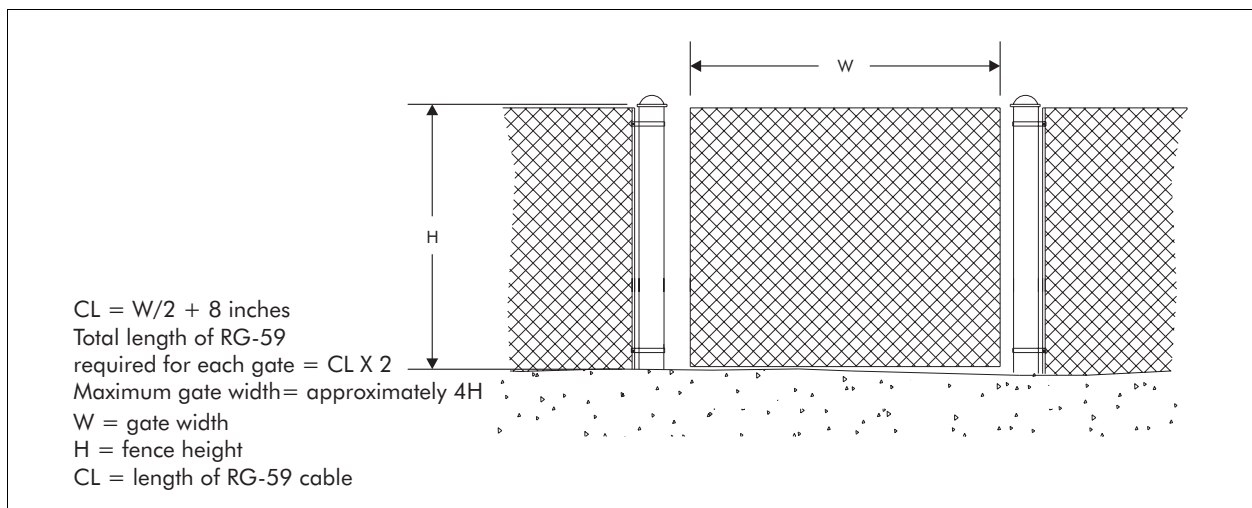

Figure 5-18 Determining RG-59 length requirements
2. Determine the length requirements for the RG-59 cable, see Figure 5-18.